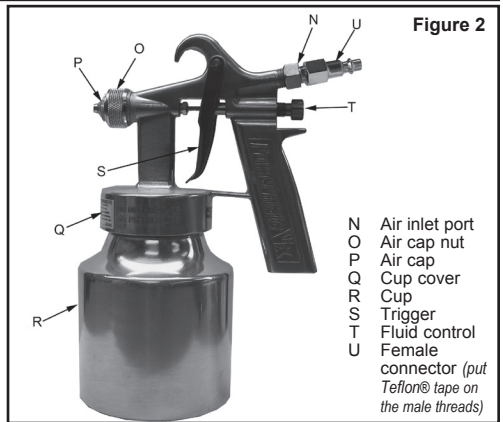

Figure 2
2. Install a 1/4" NPT female connector (included in accessory kit) onto the air inlet port on the tool (see Figure 2). **Note: Use Teflon® Tape on all threaded connections.**
- Fluid control knob (see Figure 2) - turn in a clockwise direction to close and counterclockwise to open. This knob controls the amount of paint that is mixed with the air. *NOTE: If the fluid control knob is turned in all the way, the gun will emit only air.*